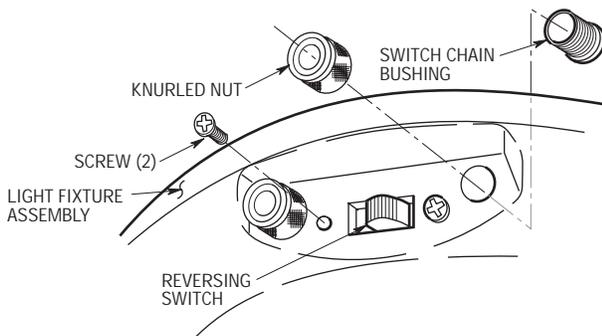

Figure 18
2. Remove and retain the two screws securing the reversing switch to the light fixture (Figure 18). Remove and retain the harness assembly.
3. Remove the knurled nut from one of the switch chain bushings (Figure 18). Retain the knurled nut and bushing for installation in the next step.